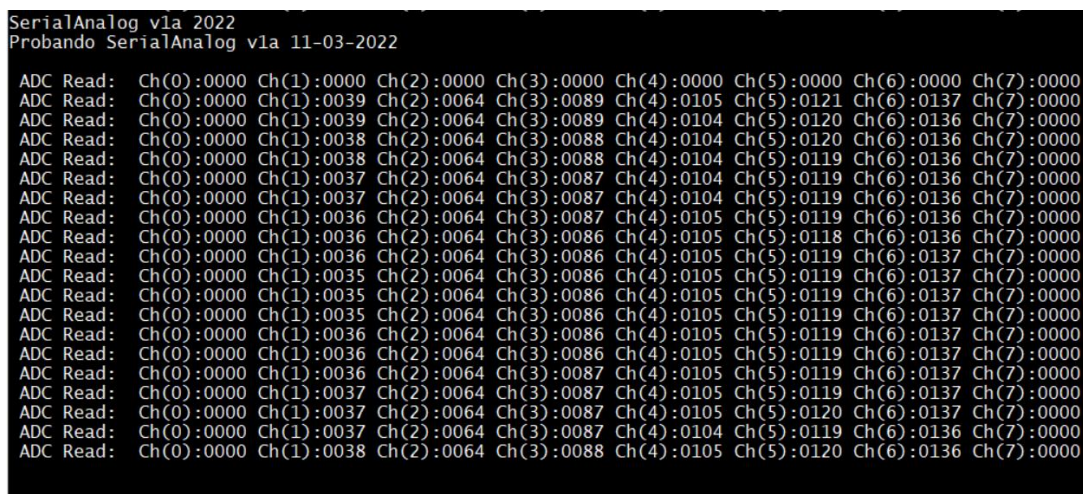

Figure 22 –TeraTerm output of serialanog1 using the above settings
3.b.5.2 Power on CL2bm1 connected to host machine with open terminal program: Finally, turn CL2bm1 power on again, and the terminal output should show something similar to Figure 22. At intervals coincident with LED Blinks, the sampled channels of the ADC inputs on **JA-1** (See Circled JA-1 header in Appendix I diagram) are read, since the ADC reference is connected to AVCC = +5Va on the board, the physical range is 0 to 5 V, referenced to ground, and the setup configures for single-ended ADC readings of Ch(0) to Ch(7). In this test, Ch(0) and Ch(7) where “jumped” to ground, therefore their readings are 0.